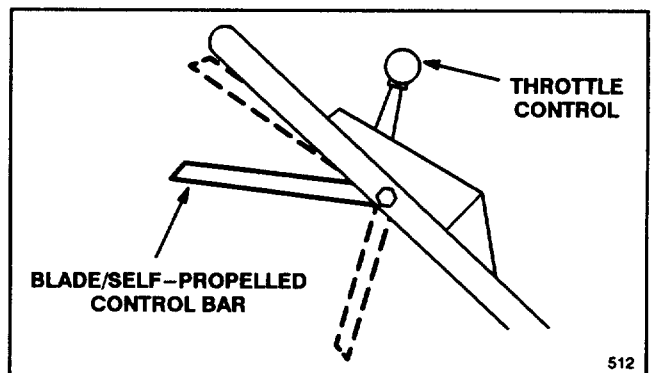

Figure 9
1. **CONTROLS**—Throttle control and blade/self-propelled control bar are on upper handle (Fig. 9).